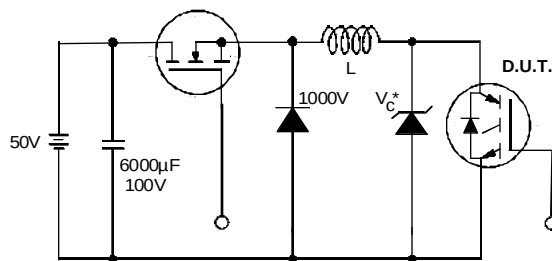

Fig. 19 - Clamped Inductive Load Test Circuit
② $V_{CC} = 80\%(V_{CES}), V_{GE}=20V, L=10\mu H, R_G = 10\Omega, (\text{ See fig. 19 })$
③ Pulse width $\leq 80\mu s$; duty factor $\leq 0.1\%$.
④ Pulse width 5.0 μs , single shot.